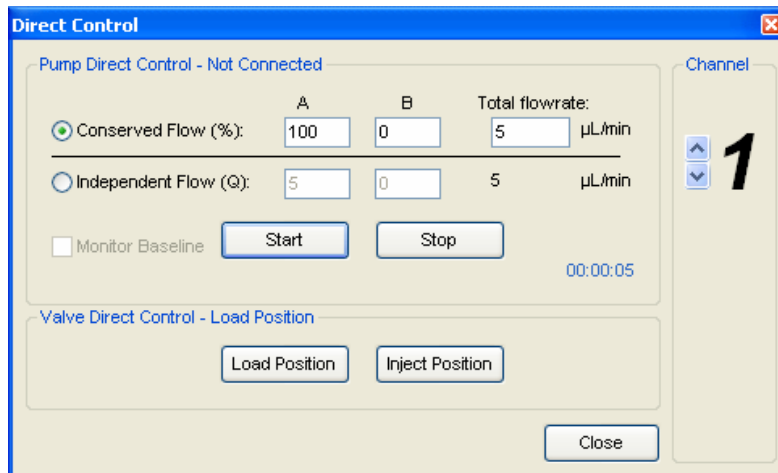

Figure 3-6. Direct Control Window – Flow Rate Check
- step 4* Set channel **A** to 100% and an appropriate flow rate for that channel (Figure 3-6).